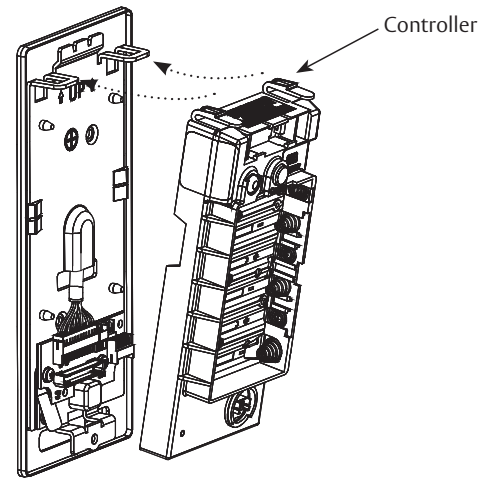

Fig. 28
- (Making sure path is clear) insert bottom tab of controller into slot on mounting plate. (Figure 28)